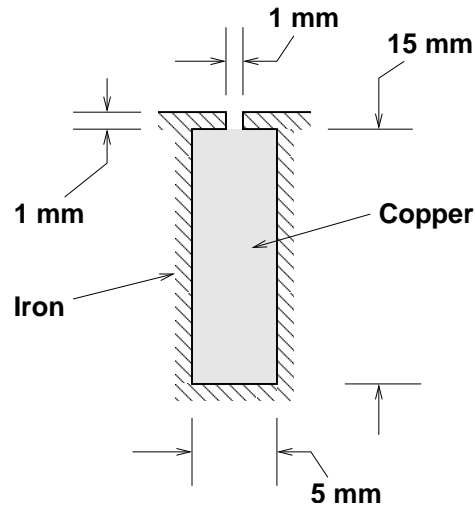

Figure 1: Phasor Diagram: Unity Power Factor, Rated Power
**Problem 3:** Figure 1 shows a highly simplified 'deep bar' as might be used in an induction motor in the fashion of the previous problem. The shaded region, 5 mm wide and 15 mm deep is a copper bar with conductivity  $5.8 \times 10^7$  S/m. It is in a slot in an iron surface which you should consider has infinite permeability. There is a slot 'depression' that is 1 mm square. The objective of this problem is to estimate the impedance, reactive and resistive, of this slot. That impedance (per unit length) is the axial electric field divided by total current in the slot.